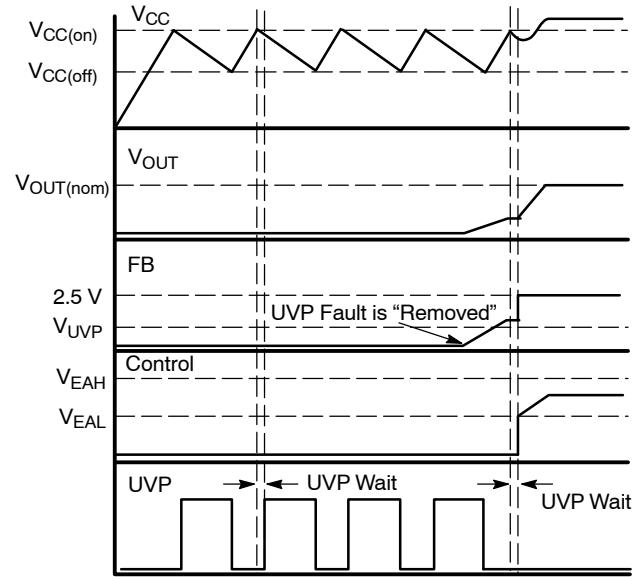

Figure 36. The NCP1606's Startup Sequence with and without a UVP Fault
Furthermore, the NCP1606 incorporates a novel startup sequence which ensures that undervoltage conditions are always detected at startup. It accomplishes this by waiting approximately 180 μ s after V_{CC} reaches $V_{CC(on)}$ before enabling the error amplifier (Figure 36). During this wait time, it looks to see if the feedback (FB) voltage is greater than the UVP threshold. If not, then the controller enters a UVP fault and leaves the error amplifier disabled. However, if the FB pin voltage increases and exceeds the UVP level, then the controller will start the application up normally.